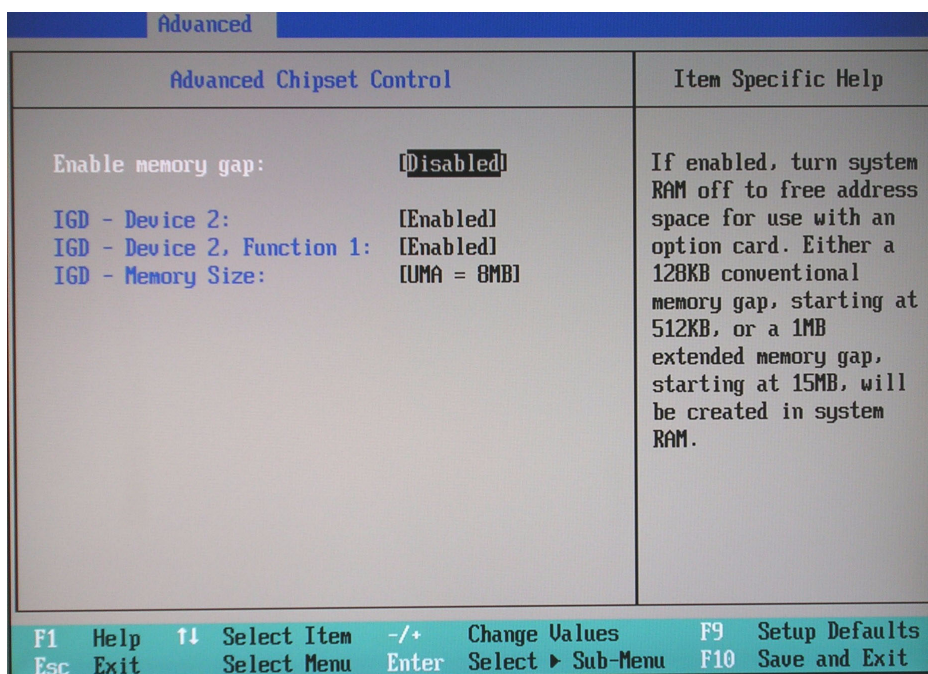

Figure 8-112 BIOS Advanced Chipset Control Parameters
Chipset Control	Figure 8-112 on page 8-115
- 2) Press <Enter> to access **Advanced Chipset Control** (Figure 8-112).
- 3.) Set the parameters for **Enable memory gap**: as shown above in Figure 8-112.